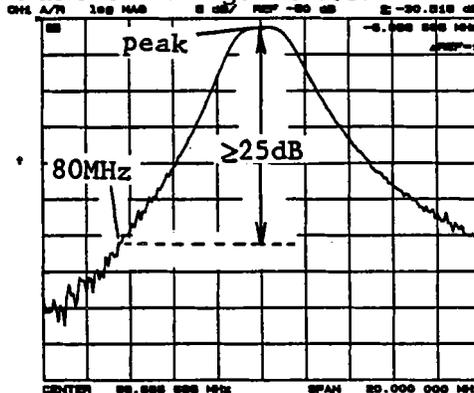

Figure 3-103. Source Second IF Converter First 86.6 MHz BPF Adjustment Example
7. Adjust A40L1, L2 (86.6MHz BPF 1 ADJ) until the level at the center frequency (86.666 666 MHz) on the Network Analyzer display is maximum, and the level at 80 MHz is  $< -25$  dBc as shown in Figure 3-103.